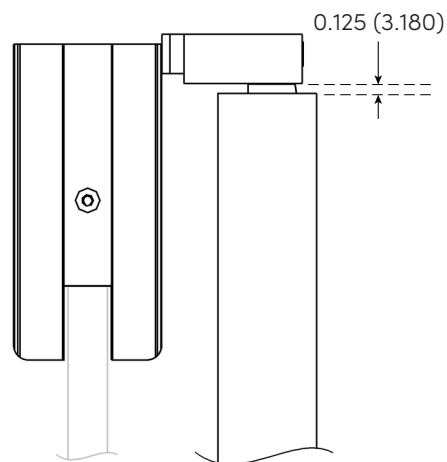

Figure 6-5
- Figure 6-5 is for the minimum height from the top of the Tube to the bottom of the Strike.